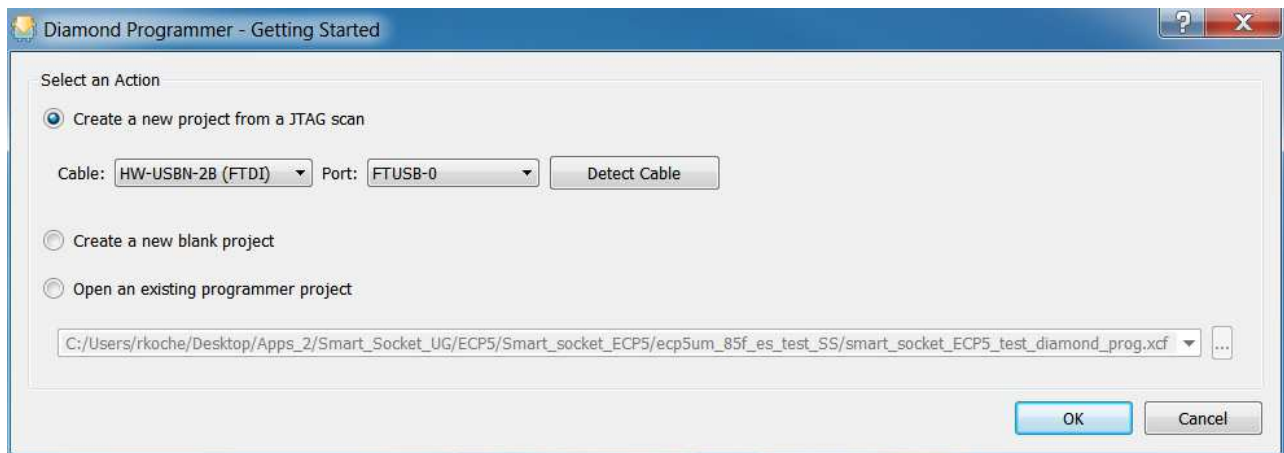

Figure 5.1. Getting Started
1. Launch the Lattice Diamond Programmer software. The **Diamond Programmer Getting Started** dialog box appears as shown in Figure 5.1.